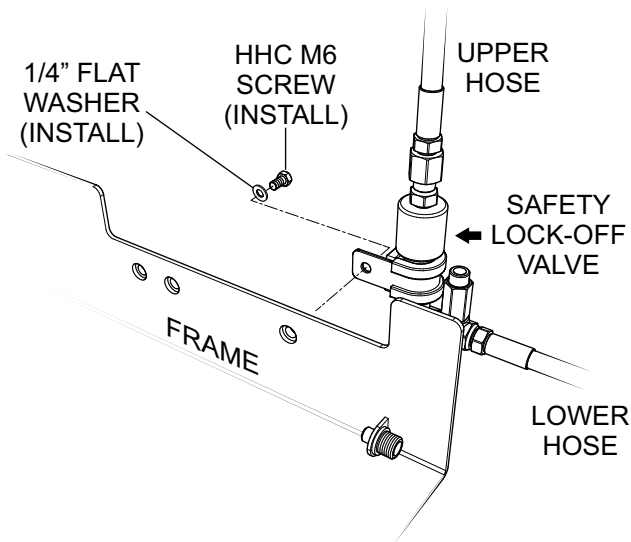

Figure 27. Safety Lock Off Valve Installation
26. Reinstall safety lock-off valve assembly (Figure 27) in its original location. Secure valve assembly to frame with mounting hardware that was removed earlier. Tighten securely.